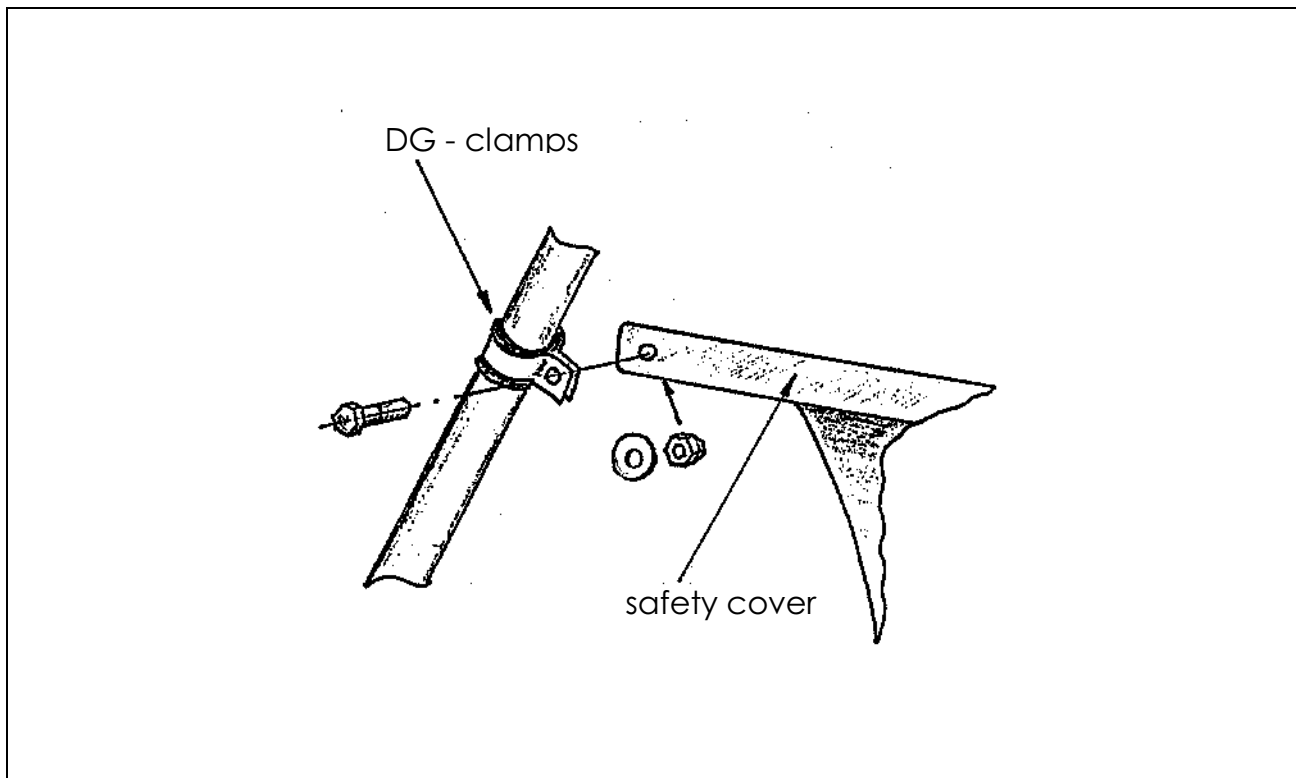

figure 3
- Attach upper end of the safety cover to the steel tubing using two DG-clamps, M5-bolts, M5-stopnuts and M5-washers on either side as shown in figure 3.